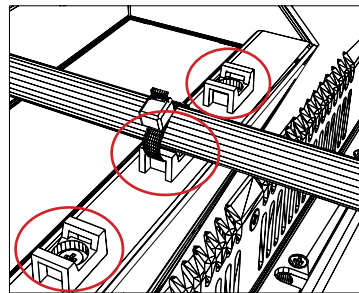

FIG 1
- 2: Unmount the fasteners. (FIG 1)
- 4: Secure the cable tightly with fasteners (FIG 3, FIG 1)
For certain units a base mounted clamp is available (FIG 1). For other models a hinge in the chassis is available (FIG 2).